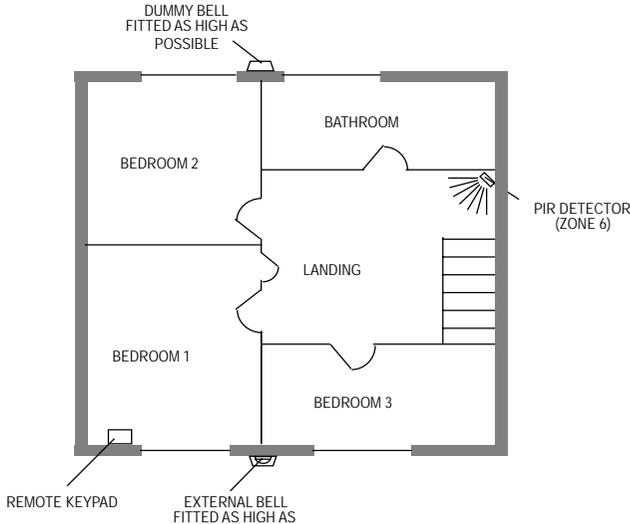

Figure 6. First Floor Plan
- (a) The first floor in Figure 6 shows a single PIR (zone 6) fitted on the landing. This ensures that anyone entering the house through a bedroom triggers an alarm when moving onto the landing.